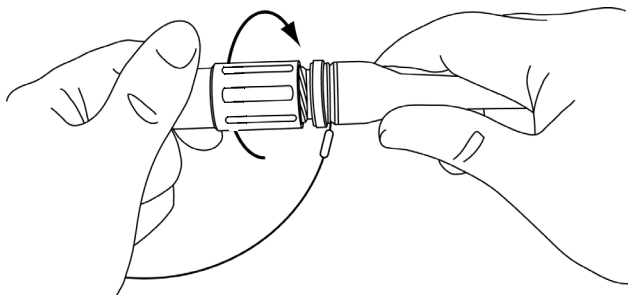

Figure 10: Attaching the soaking cap to the cable connector
- Twist the cap onto the connector (see Figure 10).